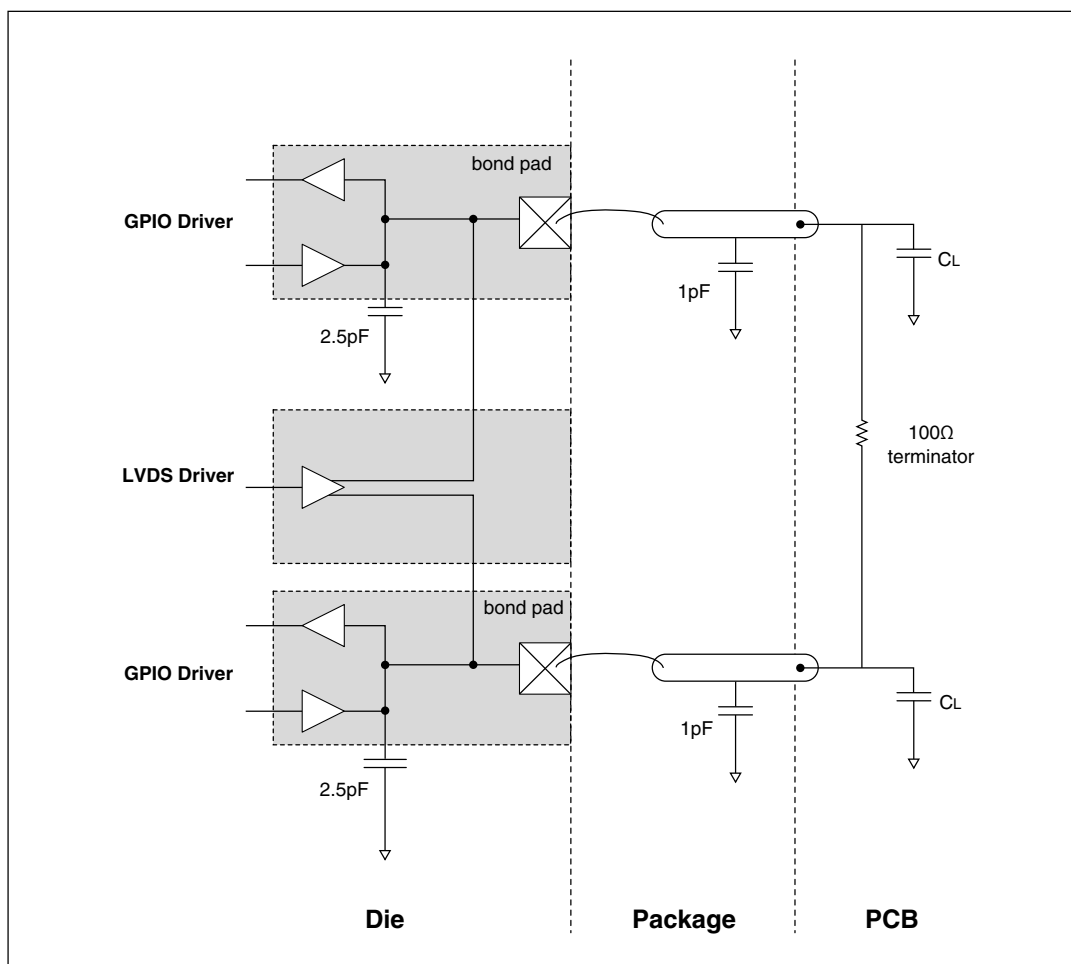

Figure 11. LVDS pad external load diagram
11. Total internal capacitance including receiver and termination, co-bonded GPIO pads, and package contributions. For bare die devices, subtract the package value given in Figure 11.
1. The LFAST pad electrical characteristics are based on worst-case internal capacitance values shown in Figure 11.
2. Valid for maximum data rate f_{DATA} . Value given is the capacitance on each terminal of the differential pair, as shown in Figure 11.
1. The MSC and DSPI LVDS pad electrical characteristics are based on the application circuit and typical worst-case internal capacitance values given in Figure 11.
4. Measured at the transmitter output across a 100 Ohm termination resistor on a device evaluation board. See Figure 11.